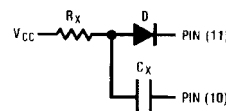

FIGURE 2.
4. If CX is an electrolytic capacitor a switching diode is often required for standard TTL one-shots to prevent high inverse leakage current Figure 2.